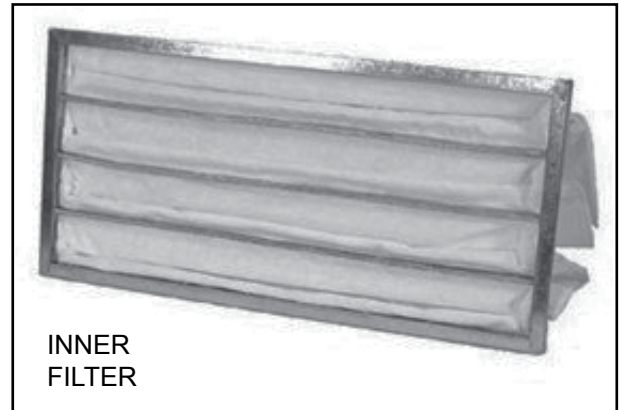

FIG. 8
2. The INNER FILTER (FIG. 8) can now be pulled out of the unit. The inner filter can be blown out with air, or washed out to extend its life. Make sure the filter is completely dry before re-installing it in the cabinet.